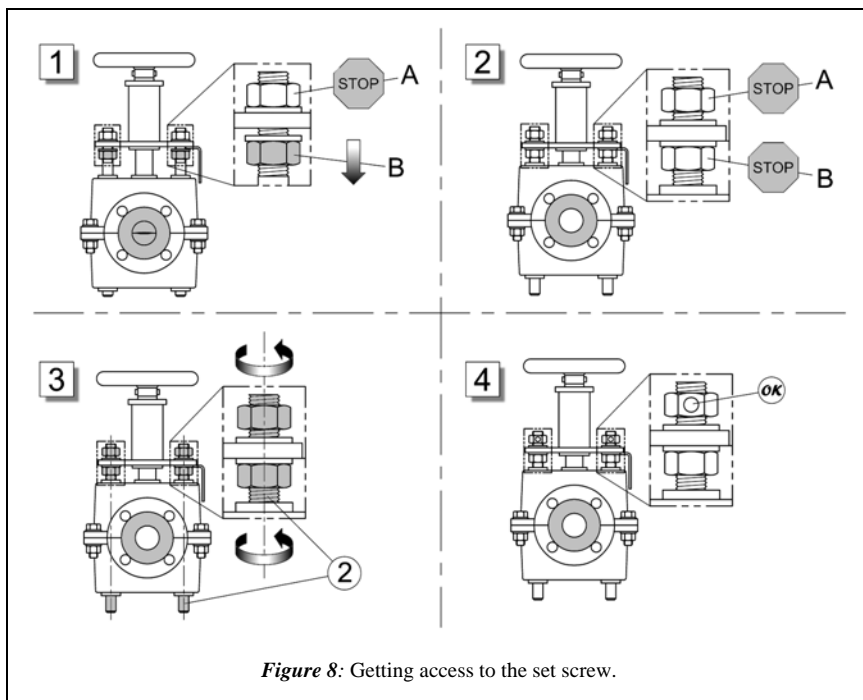

Figure 8: Getting access to the set screw.
- spin both B-nuts down at least one turn (box 1 in Fig. 8).
- actuate the RF Valve® open (box 2 in Fig. 8).
- turn both the pull bar ② and the A-nut simultaneously as if they were one part until the hole in the A-nut is accessible (boxes 3 and 4 in Fig. 8). IT IS VERY IMPORTANT THAT THE A-NUT DOES NOT MOVE/TURN RELATIVE TO THE PULL BAR!
STEP 7: Actuate the RF Valve® closed again and measure the size of the new gap, χ_1 . It should be roughly 3mm in size (Fig. 8).